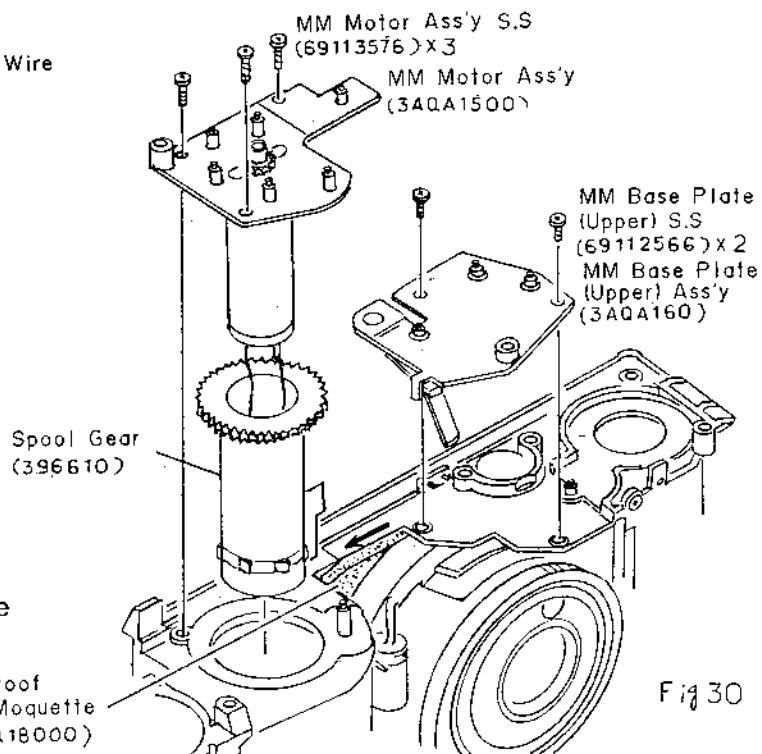

Fig. 30
b) The Light-proof Frame Moquette (3AQ18000) is stuck to the body (below) and the Lens Barrel Ass'y. Be sure to peel off the Light-proof Frame Moquette from the body without tearing it before removing the Lens Barrel Ass'y. (See Fig.30)